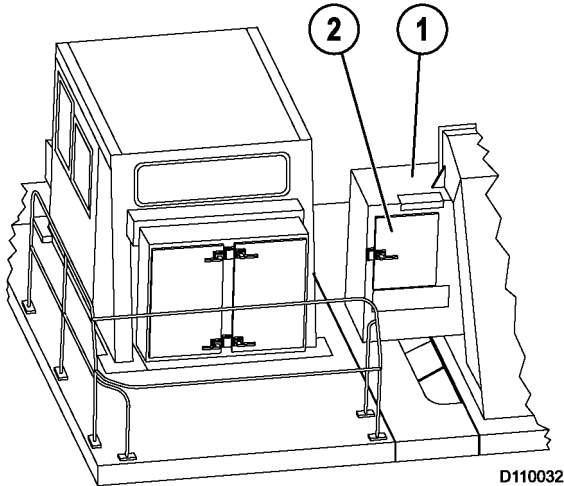
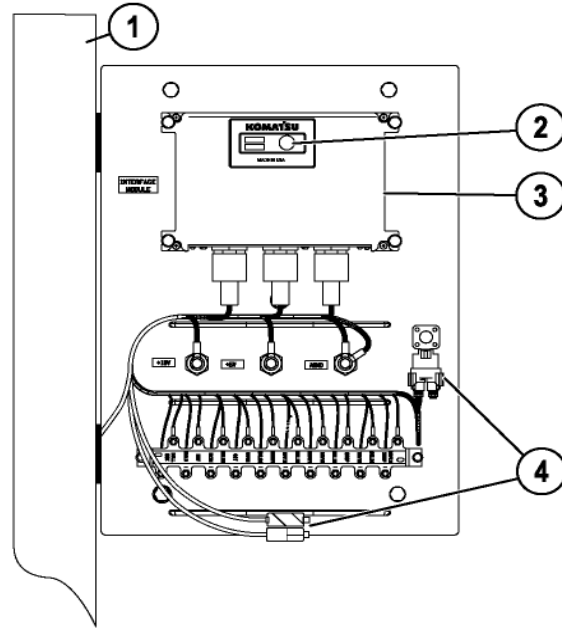

FIGURE 32-15. CONTROL CABINET
FIGURE 32-16. INTERFACE MODULE LOCATION
Interface module (3, Figure 32-16) is located inside control cabinet (1, Figure 32-15). The interface module is attached inside door (2).
- 3. Interface Module (IM)
The Interface Module (IM) receives data from the sensors installed on the truck and sends this information to the VHMS controller. There is a small green LED light (2, Figure 32-16) on the face of the controller. With the key switch ON, the light will blink. If the light is continuously illuminated, there is a problem in the controller.